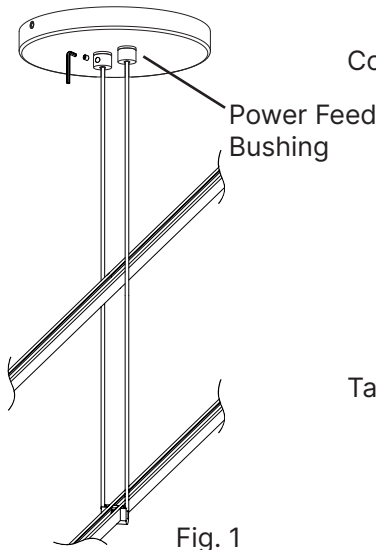

Fig. 1
1. Insert one of the **Arms** onto the **Center Hub**, and secure with the four **Phillips Screws** (Fig. 1).
1. Install the **Single Cord Power Feed Hanger** onto the **Power Bar**: pass the **Cord** through the Power Bar, tip the Hanger 45 degrees and insert the copper springs into the center of the Power Bar, then push the Hanger up while tipping it back up 45 degrees (Fig. 1).
1. Install **Double Cord Power Feed Hanger** to **Lower Power Bar** and connect to the **Power Feed** by inserting the exposed wires into the **Power Feed Bushings**. Secure by tightening the **Set Screws** with the included **Allen Key** (Fig. 1).
1. Install the **Mounting Bracket** to the ceiling with **Anchor** (if appropriate) and **Screw**, then screw the **Post** onto the Mounting Bracket (Fig. 1).
1. Install the **Mounting Bracket** to the ceiling with **Anchor** (if applicable) and **Screw**, then screw the **Post** onto the Mounting Bracket (Fig. 1).